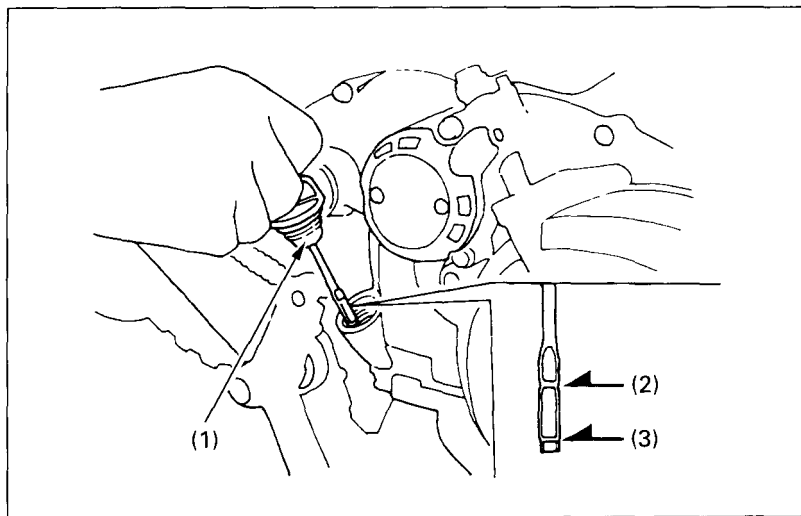

Fig. 2-19 (1) Oil filler cap/dipstick (2) Upper level mark (3) Lower level mark
The oil filler cap/dipstick (Fig. 2-19), on the right crankcase cover, is used to measure the oil level. The oil should be checked each day before operating the FOURTRAX and maintained between the upper level mark (2) and the lower level mark (3).